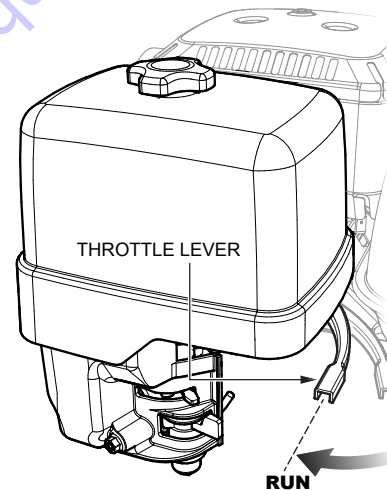

Figure 14. Throttle Lever (Run)
11. To begin pumping, place the throttle lever (Figure 14) in the **RUN** position.